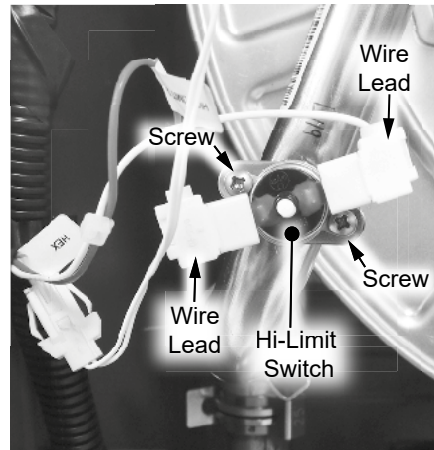

Figure 1 - Hi-Limit switch location
4 Locate the hi-limit switch on the outlet burner tube as shown in Figure 1. Disconnect the two (2) wire leads (labeled HIGH LIMIT 2) from the hi-limit switch and route them inside the water heater cabinet for ease of access to hi-limit.
5 Use a Phillips screwdriver to remove the two (2) screws securing the hi-limit switch to the outlet burner tube. Place screws aside in a safe place for reinstallation. See Figure 1.